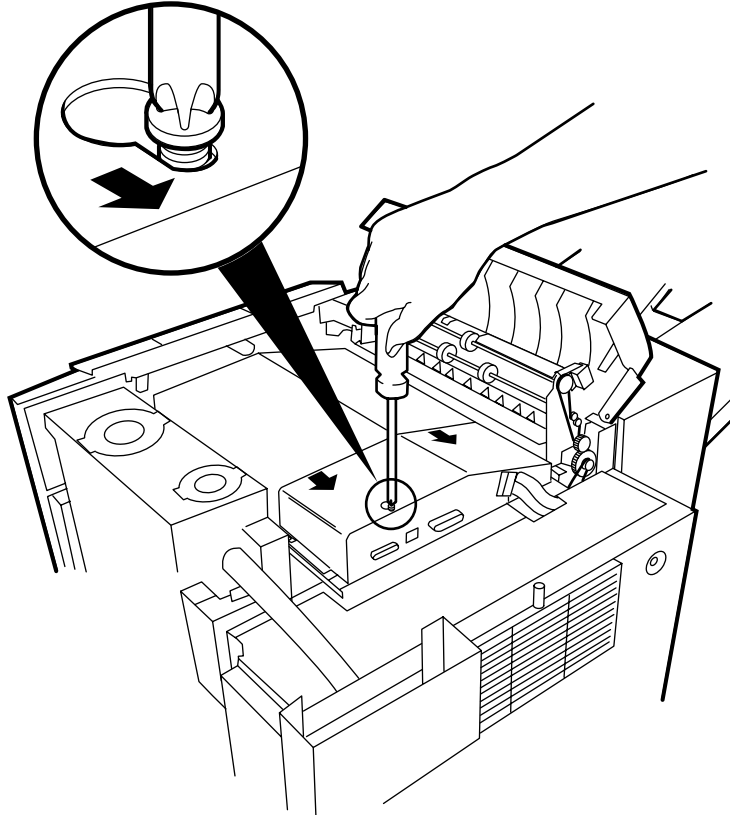

Figure 4-38 Removing Memory Access Cover
5. Loosen the top screw on the memory access cover and slide the cover toward the rear of the printer, as shown in Figure 4-38.